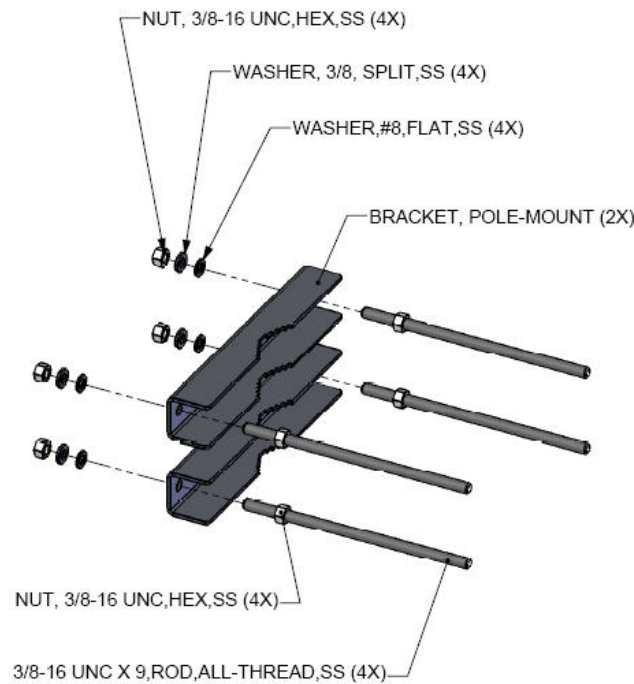

Figure 3-4 Pole-Mount Bracket Assembly
1. Pre-assemble the pole mount brackets by attaching the 4 All-Thread rods to two of the pole mount brackets using eight $\frac{3}{8}$ -16 x $\frac{3}{4}$ hex nuts and four each $\frac{3}{8}$ split lock washers, and $\frac{3}{8}$ # 8 flat washers, as shown in *Figure 3-4*. This creates a U-Bolt type arrangement.